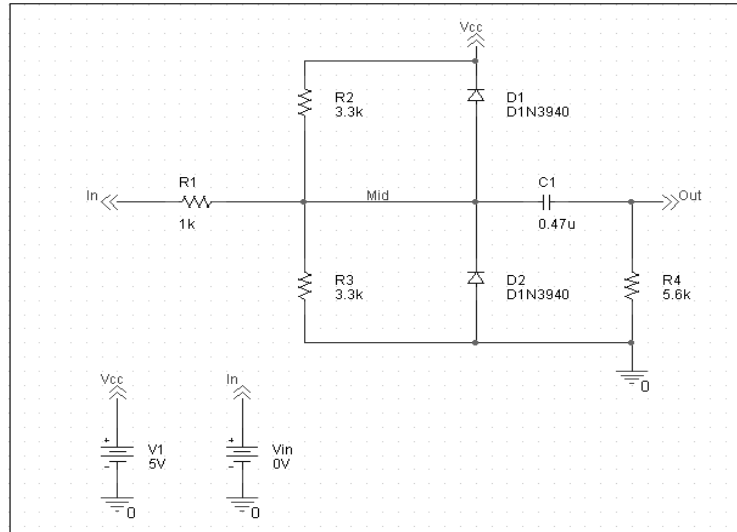

Figure 2 *Diode clipper circuit.*
This section describes how to use OrCAD Capture to create the simple diode clipper circuit shown in Figure 2.
- 6 Move the pointer to the correct position on the schematic page (see Figure 2) and click to place the first part.
- You will change part names and values that do not match those shown in Figure 2 later in this section.
- 3 Follow similar steps as described for the diodes to place the parts listed below, according to Figure 2. The part names you need to type in the Part name text box of the Place Part dialog box are shown in parentheses:
- resistors (R)
- capacitor (C)
- 6 Place the off-page connector parts according to Figure 2.
- 7 To place the ground parts (0), click the GND button on the tool palette.
- 9 Place the ground parts according to Figure 2.
- 6 Continue connecting parts until the circuit is wired as shown in Figure 2 on page 2-16.
Label the off-page connectors as shown in Figure 2 on page 2-16.
- 5 Continue naming the remaining parts until your schematic looks like Figure 2 on page 2-16.
- 4 Continue changing the Part Value properties of the parts until all the parts are defined as in Figure 2 on page 2-16.
Your schematic page should now have the same parts, wiring, labels, and properties as Figure 2 on page 2-16.